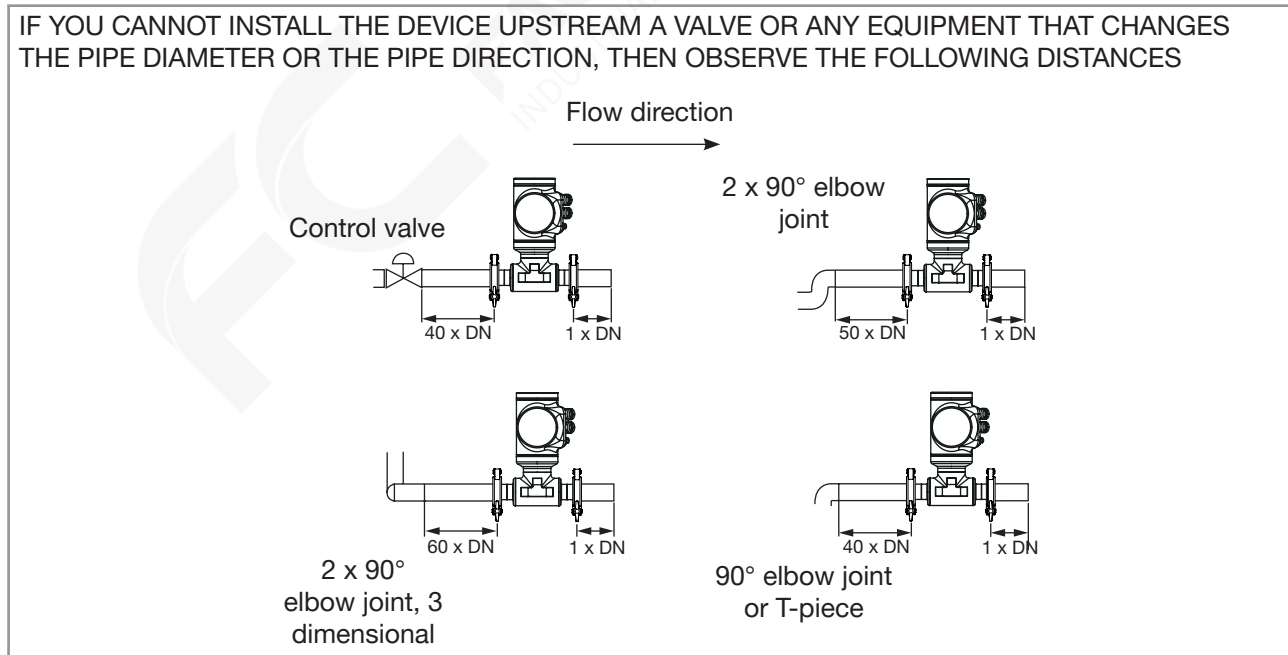

Fig. 14: Upstream and downstream straight distances for special pipe designs (example for a horizontal installation)
- If you cannot install the device upstream a valve or any equipment that changes the pipe diameter or the pipe direction, observe the straight downstream distances depending on the design of the pipes. Refer to standard ISO 9104:1991 and Fig. 14. If these recommendations cannot be complied with, contact Bürkert.